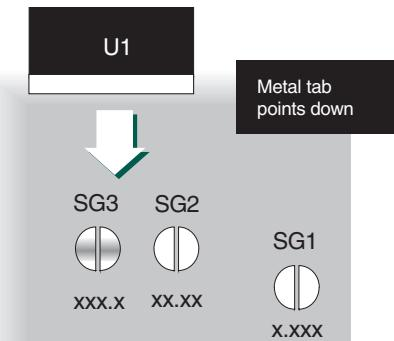

Figure 2. Installing U1
**3. Battery Operation:** Do not use this feature with blue LED meters. Open SG4 and install U1 (LM7805CT) with its metal tab facing down as shown Figure 2. Allowable input power ranges (J1, pins 5 and 6) are as follows: